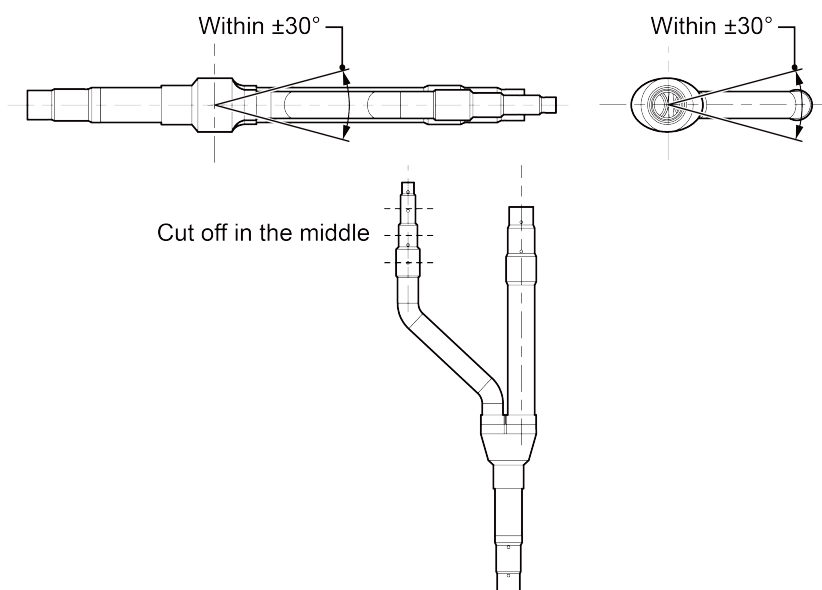

Fig.4.17
(2) Y-type branch has several pipe sections with different dimension, which facilitates to match with various copper pipes. Use pipe cutter to cut in the middle of the pipe section that is of proper dimension and remove burrs as well. See Fig.4.17.
(3) Y-type branch must be installed vertically or horizontally.